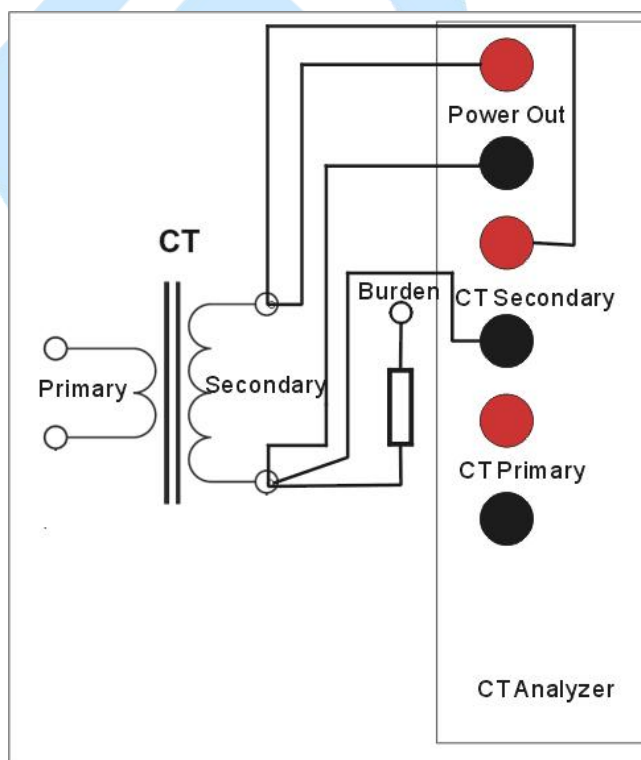

Figure 3.5 Reference connections for CT coil resistance test
Please connect analyzer and sample CT as figure 3.5 in CT coil resistance test
- 1) Connect analyzer grounding terminal to protection earth (PE).
- 2) Disconnect sample CT secondary coil with secondary loop as figure 3.5.